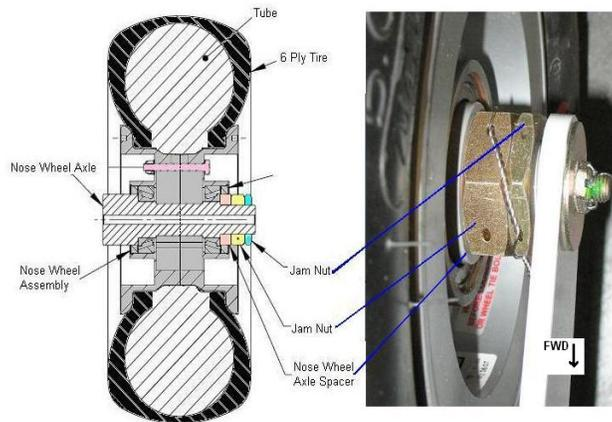

Figure 32-17 Nose Jam Nut Orientation
6. To remove bearings, remove two jam nuts from nose wheel axle. Note orientation of jam nuts and spacers in Figure 32-17.